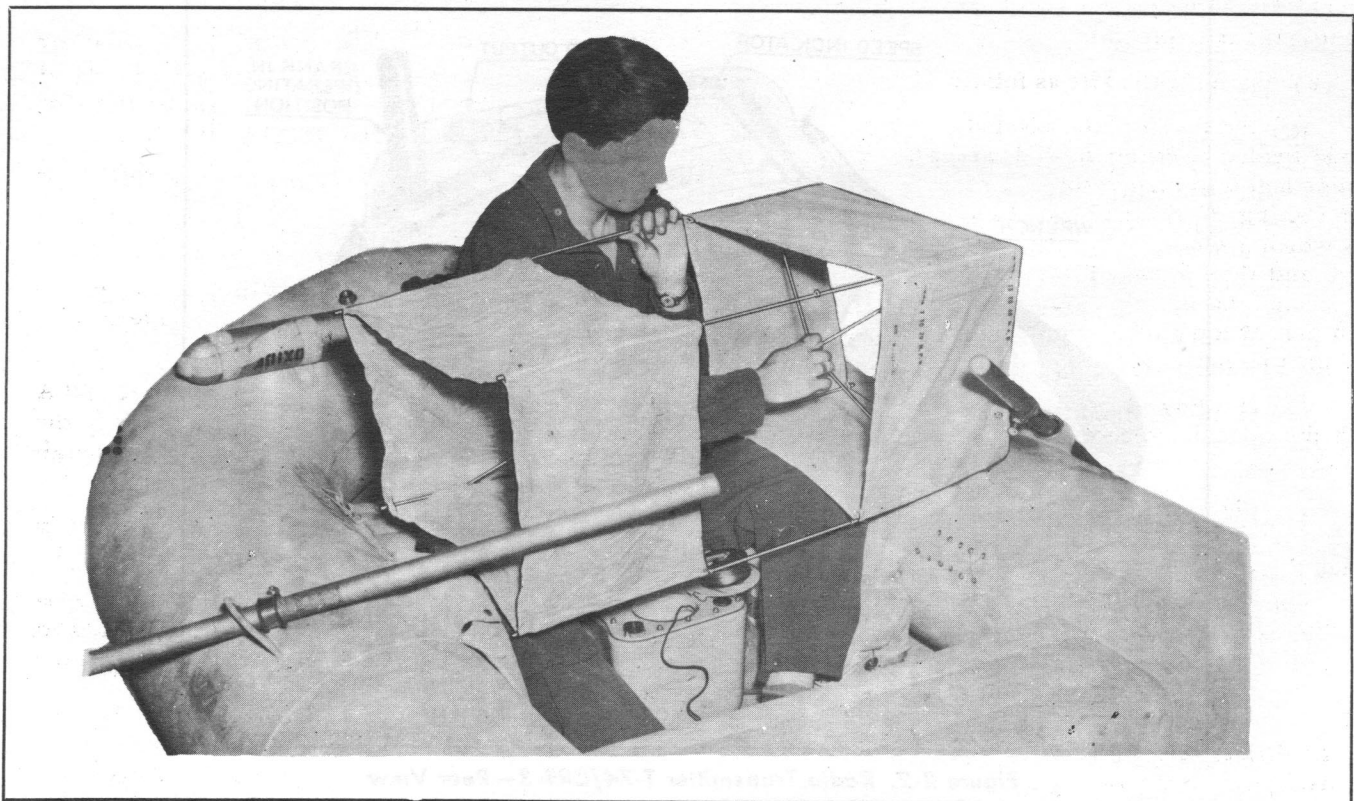

Figure 2-4. Kite M-357-A—Assembly, Step 2
(c) Place one hand on each spider and push toward the ends of the kite. (See figs. 2-4 and 2-5.) When these have been sufficiently extended, they will lock into position. Stop pushing on the spiders just as soon as you feel them jump. The process may be thought of as similar to that of opening an umbrella.
(18) With the antenna fastened to the balloon, release the "BRAKE" and allow the balloon to pull out *all* the wire on the reel.
(19) Attach the antenna-securing cord to the life raft and connect the antenna lead-in from the transmitter to the antenna. (See fig. 2-4.)
j. Operating the transmitter requires a comparatively high turning torque. To assure stability, a belt assembly is attached to the case of the transmitter and employed to fasten the transmitter to the operator. (See fig. 2-4.) Attach the transmitter as follows:
(1) Assume a sitting position and place the transmitter between the legs just above the knees, with the front panel facing outward.
(2) Pass the long strap over the left leg.
(3) Bring the long strap underneath both legs and buckle it to the short strap at the side of the right leg.